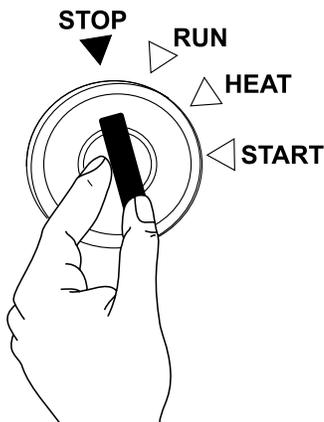

Figure 25. Starter Switch (Stop Position)
3. Place the starter switch key (Figure 25) in the **STOP** position and remove the key.
1. Place starter switch key (Figure 25) in **STOP** position. Remove key.